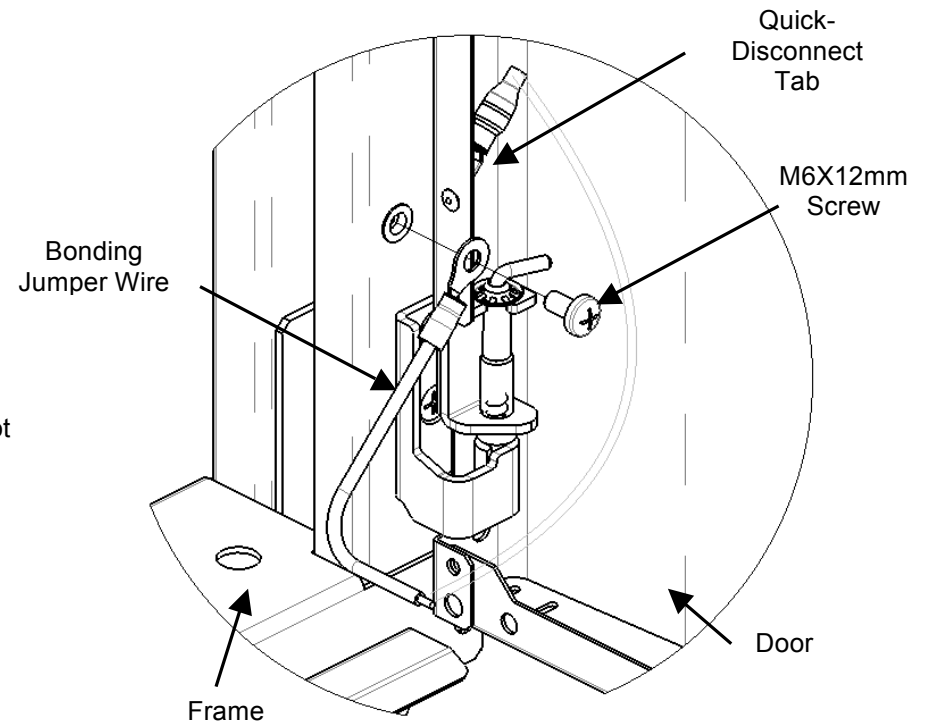

Fig. 3
- Using an M6X12mm screw, attach the end of the bonding jumper wire with the ring terminal to the frame threaded nut nearest to the bottom door hinge. Orient ring terminal as shown when tightening screw (Fig.3).
- Electrically bond the door to the cabinet frame by plugging the quick-connect end of the bonding jumper wire onto the quick-disconnect tab nearest the lower door hinge (Fig. 3).
- To remove the door, unplug the quick-connect end of the bonding jumper wire from the door. Open the door perpendicular to the cabinet. Pull down on the handle of the upper hinge pin. Tilt the door away from the upper hinge and lift door up off lower hinge to remove (Fig. 3).